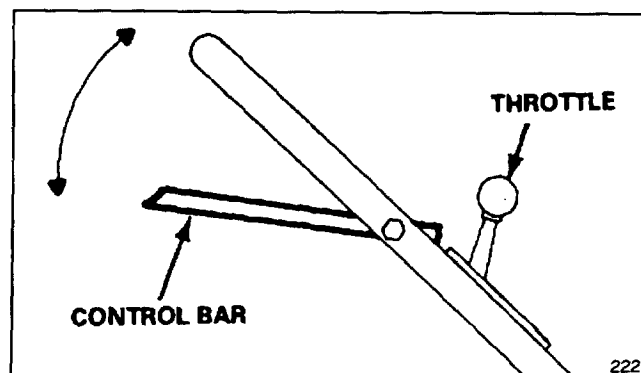
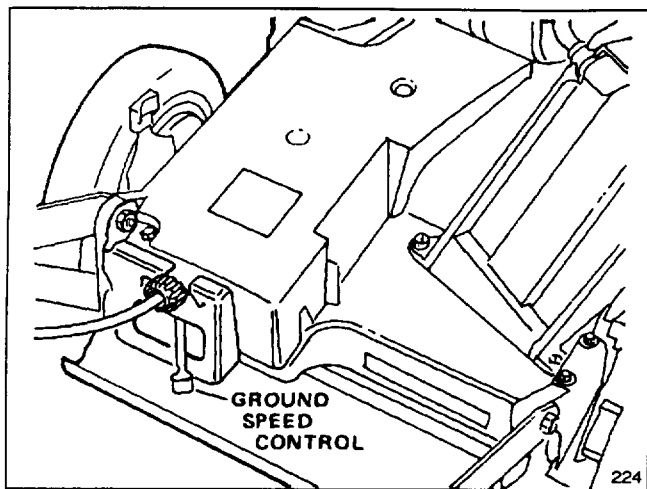

Figure 8
Figure 9
1. **CONTROLS**—Throttle control and control bar are on upper handle (Fig. 8). Ground speed control is located at rear of belt cover (Fig. 9). Fingertip starter is on engine.
3. **STARTING**—Move ground speed control to desired speed selection (Fig. 9) and throttle (Fig. 8) to CHOKE. Pull fingertip starter and regulate throttle as desired when engine starts. When temperature is near 40° F, a few extra pulls may be required because the engine needs priming.
4. **TRACTION OPERATION**—Squeeze control bar against handle to drive. Ground speed varies, depending on space between control bar and handle (Fig. 8).